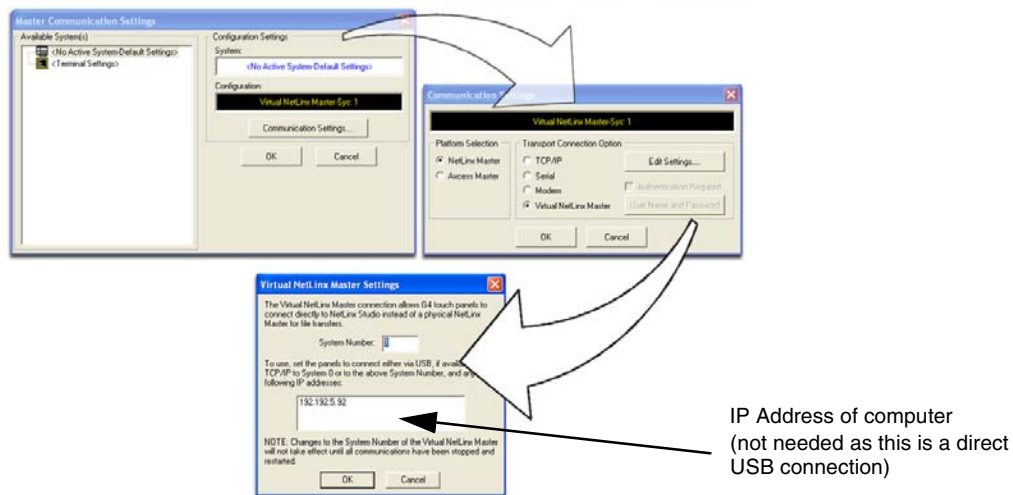

FIG. 56 Assigning Communication Settings for a Virtual Master
2. Select **Settings > Master Communication Settings**, from the Main menu to open the Master Communication Settings dialog (FIG. 56).
6. Click the **Edit Settings** button (on the *Communications Settings* dialog) to open the *Virtual NetLinX Master Settings* dialog (FIG. 56).